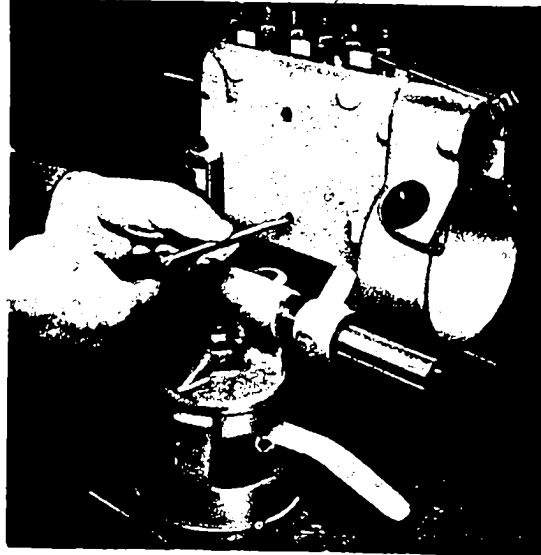

Fig. 13 Remove securing screw
On camshafts with intermediate bearing (70), first unscrew securing screw (71) and packing ring (72) at the rear of the pump (Fig. 13).